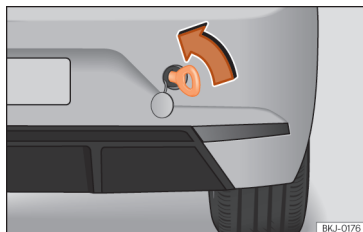

Fig. 158 Right side of the rear bumper: towline anchorage screwed in.
- Screw the towing eye in the housing by turning it to the maximum **anticlockwise** >>> Fig. 158 , >>> page 251. Use a suitable object that can completely and securely tighten the towing eye in its housing.